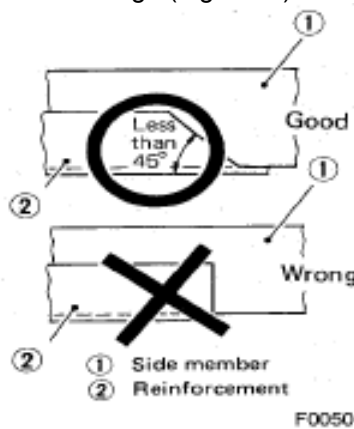

Fig. 3-19
2. For prevention of stress concentration, the end of the reinforcement plate must be cut off to less than 45° so that the section undergoes a gradual change (Fig. 3-19).